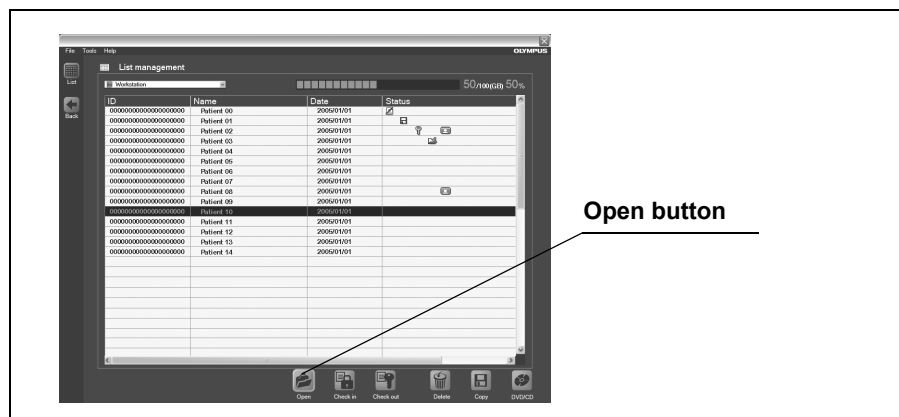

Figure 6.6
3. Select the examination data from the examination list, and click the [Open] button (see Figure 6.6). The data open screen is displayed.